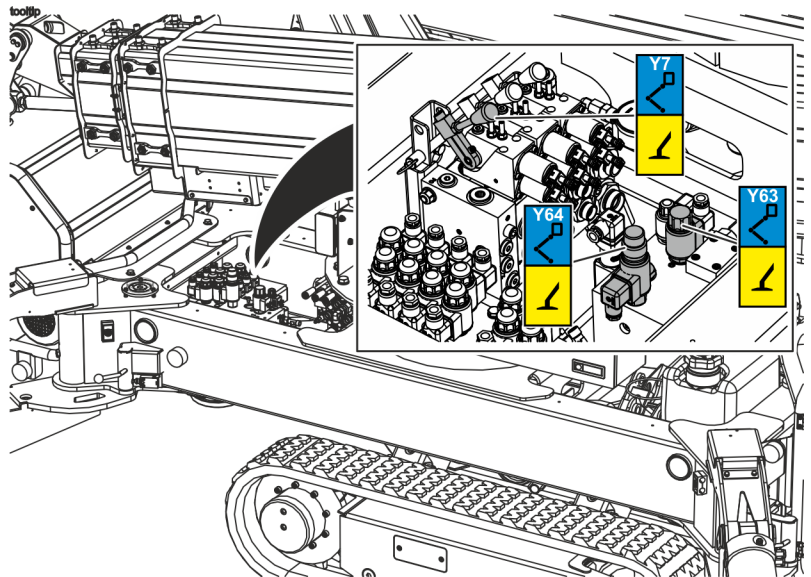

Fig. 192: Valves for outriggers
Completely screw in the pressure relief valve (Fig. 192/Y64).
4. ➔ Unscrew and remove the black cap (Fig. 192/Y63) from the release valve and completely screw out the valve actuator.